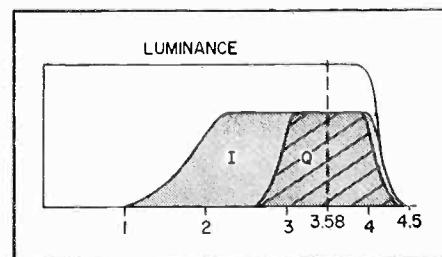

Figure 3—The three bandwidths (luminance, I, and Q) which compose the complete color video signal.
Positive going Q produces magenta, negative going Q—green. The two, when properly combined with the luminance signal, will produce three color information in coarse detail (broad areas), two color information in medium detail and monochrome in fine detail. Since the luminance signal has normal video bandwidth of four Mc, we find that a signal conforming to the NTSC standards produces three color reproduction from 0 — 0.5 Mc (I & Q), two color reproduction from 0.5 — 1.5 Mc (I), and monochrome reproduction from 1.5 to 4 Mc (Y). The three bandwidths which compose the complete video signal are illustrated in Figure 3.